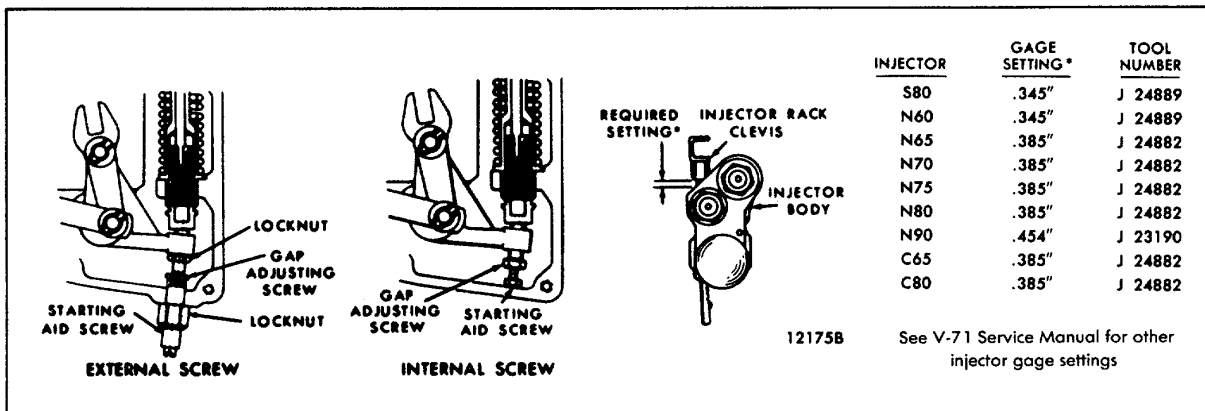

Fig. 5. Starting Aid Screw Adjustment
The starting aid screw is threaded into the governor housing (Fig. 5). This screw is adjusted to position the injector racks at less than full fuel when the governor speed control lever is in the idle position. The reduced fuel makes starting easier and reduces the amount of smoke on start-up.
b. Adjust the starting aid screw to obtain the required setting between the shoulder on the injector rack clevis and the injector body (Fig. 5).